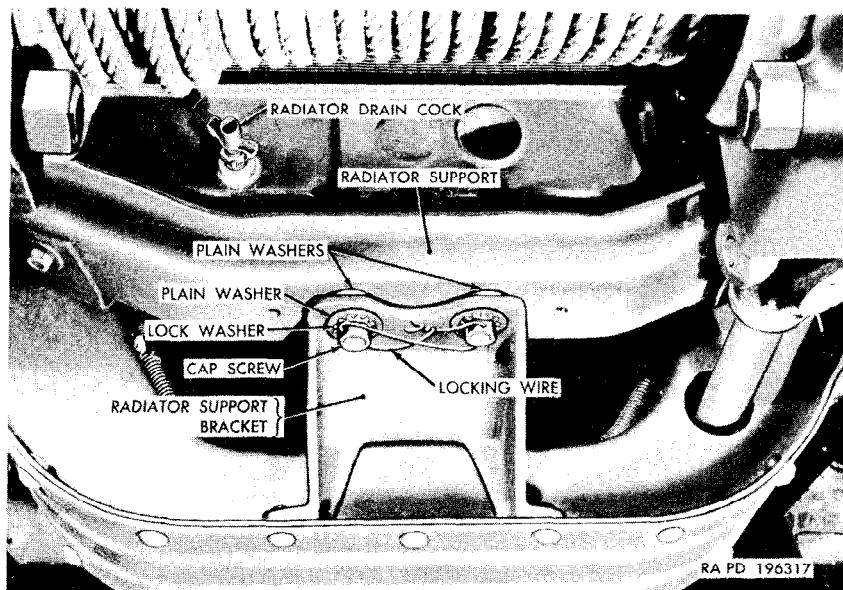

Figure 84. Disconnect points at radiator support.
d. Disconnect Radiator Support. Remove the locking wire (fig. 84) from the two radiator support bolts. Remove the two bolts, lock-washers, and plain washers.